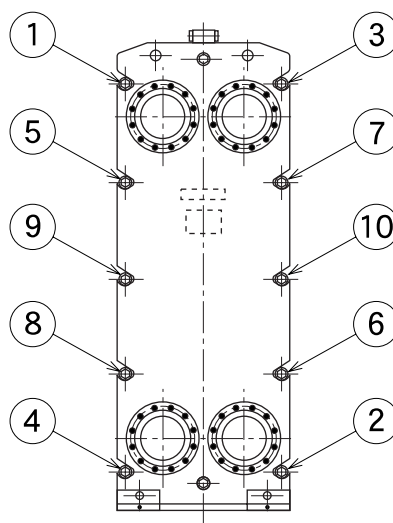

Fig.7.1 Tightening sequence
(1) Tighten the middle bolt nuts ⑨⑩ alternately. (Fig.7.1).
(2) When it becomes hard to tighten them, tighten other middle bolt nuts ⑤⑥⑦⑧ alternately, including the top and bottom bolt nuts ①②③④.